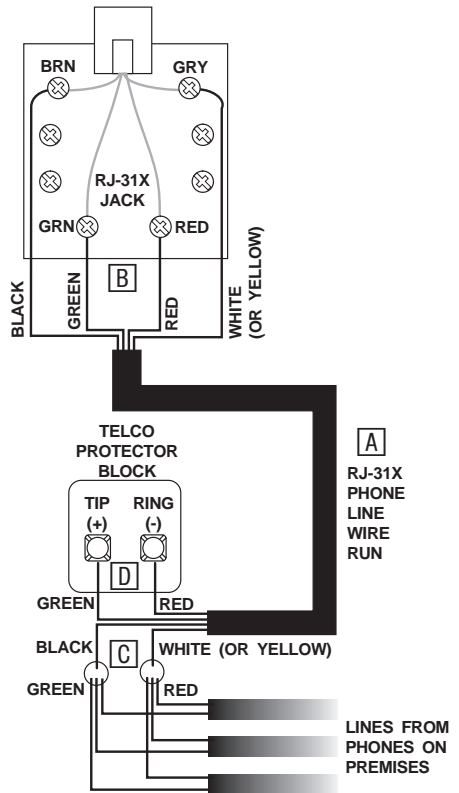

Figure 6. Connecting an RJ-31X Jack to the Phone Line
1. Run a 4-conductor cable from the TELCO protector block to the jack location (see **A** in Figure 6).
2. Connect one end of the cable to the jack (see **B** in Figure 6).
3. At the TELCO protector block, remove the premises phone lines (lines from phone jacks on premises) from the block and splice them to the black and white (or yellow) wires of the 4-conductor cable (see **C** in Figure 6).
4. Connect the green and red wires from the 4-conductor cable to the TIP (+) and RING (-) posts on the block (see **D** in Figure 6).